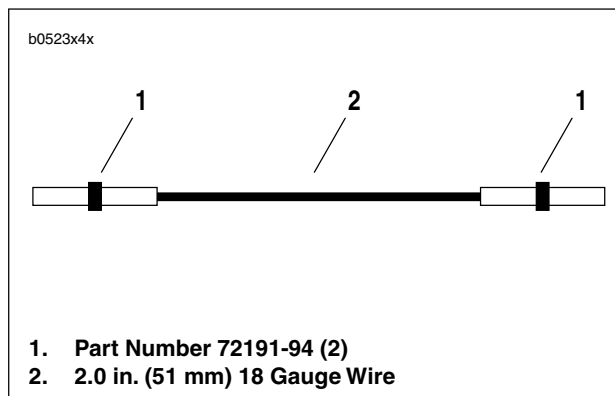

Figure 4-6. Diagnostic Test Wire
- a. See Figure 4-6. Create diagnostic test wire from parts shown.